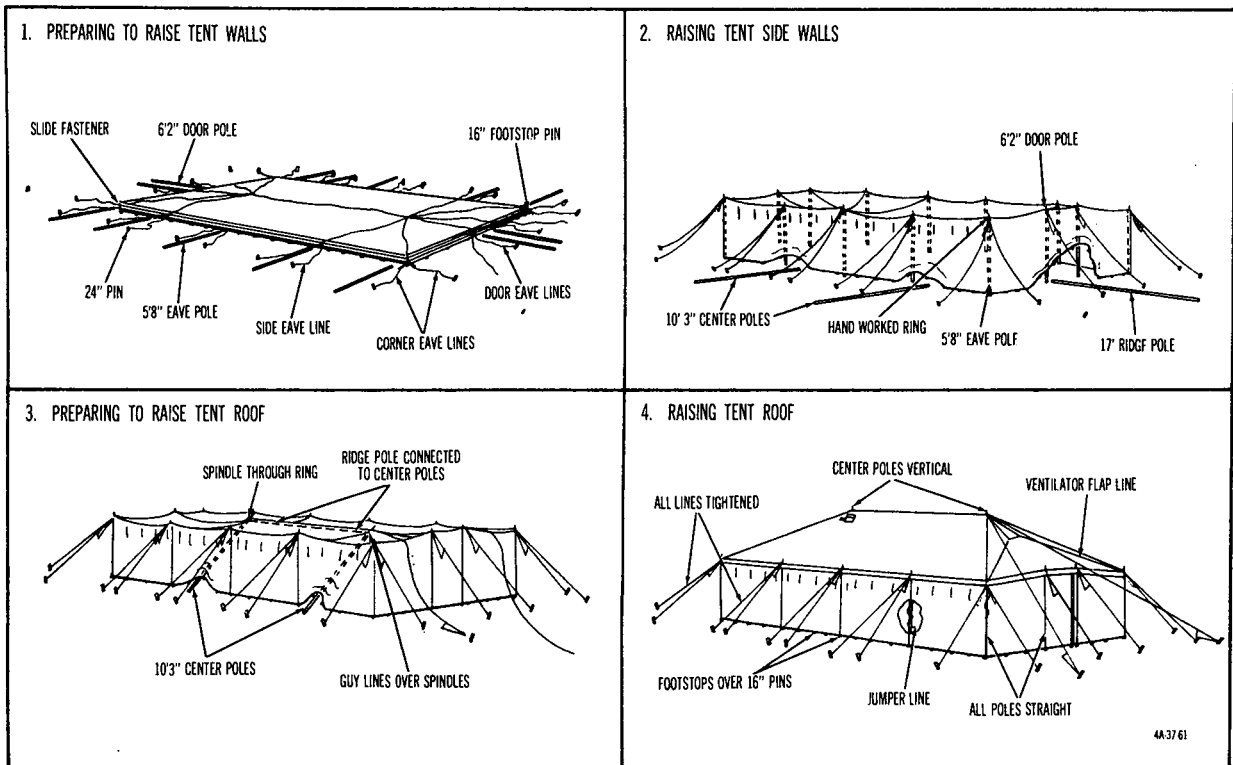

Figure 27. Steps in pitching tent, in general purpose, medium.
- (1) *Securing tent to ground in preparation for raising tent walls* (1, fig. 27).
- (2) *Raising tent sidewalls* (2, fig. 27).
- (3) *Preparing to raise tent roof* (3, fig. 27).
- (4) *Raising tent roof* (4, fig. 27).